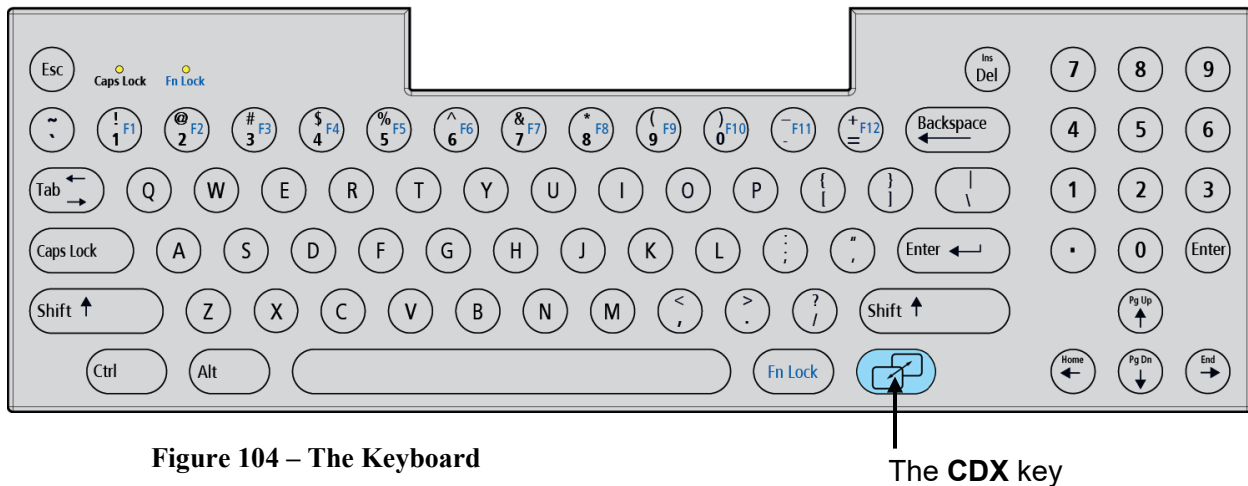

Figure 104 – The Keyboard
The Clinical Data eXchange (CDX)[™] system is an independent PC that is built into the 2008T hemodialysis machine. The CDX PC can run software programs that are displayed on the 2008T display screen and accessed with the keyboard, touchscreen, and touchpad like any other personal computer (PC). Pressing the blue **CDX** key on the keyboard (see Figure 104) will switch between displaying Dialysis/SLED and CDX.
1. Press the **Power** key on the 2008T hemodialysis machine to start the machine. While on the “Select Program” screen, press the blue **CDX** key on the keyboard (see Figure 104). CDX will be displayed.